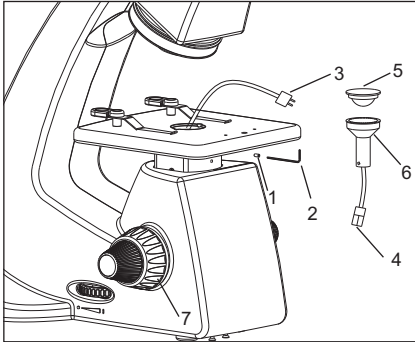

Fig. 8
1. Raise the stage to the highest position by rotating the coarse focus knob (7) clockwise. See figure 8.
2. Use allen key 3mm (2) to unlock the screw (1) from the stage to unsecure LED assembly.
3. Detach the LED assembly from connectors (3 & 4) by gently pulling them apart. Secure the lower part of the connector (3) with the stage clip to avoid it from slipping inside.
4. Remove the condenser system (5) by rotating it anti clockwise.
5. Remove the LED assembly (6) and replace with new LED assembly.